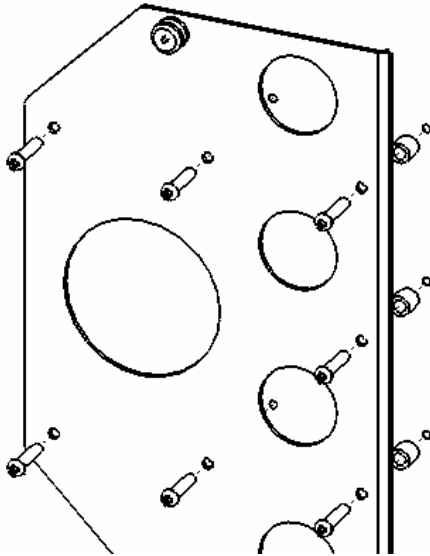
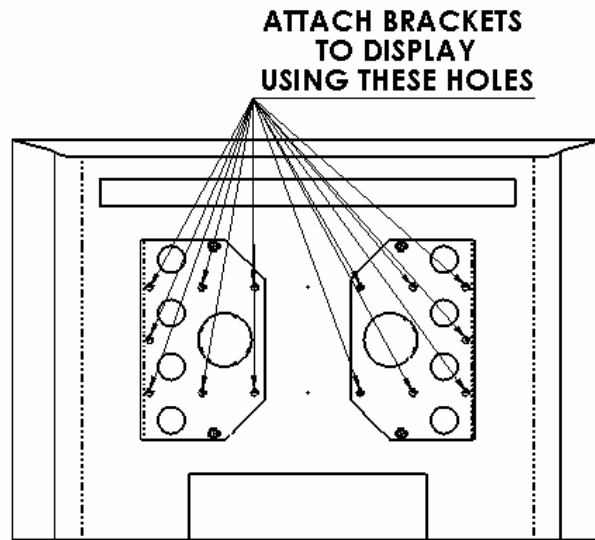

Figure 4
Figure 5
2. Place Nylon spacers over mounting holes on back of screen. Attach mounting brackets to the display using the M6 screws (see Figure 4 & Figure 5).